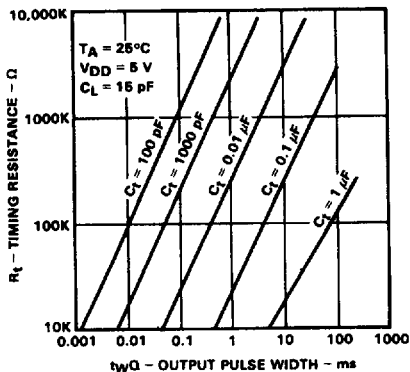
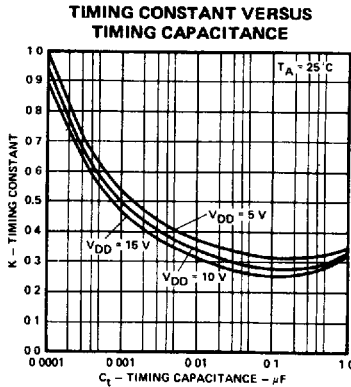

FIGURE 1.
Fig. 3.
3. Polarized capacitors may be used directly. The (+) terminal of a polarized capacitor is connected to pin 2 (14) and the (-) terminal to pin 1 (15). Pin 2 (14) will remain positive with respect to pin 1 (15).
4. The output pulse width can be determined from the pulse width versus  $C_t$  or  $R_t$  graphs (Figures 1 and 2).
The first step is to choose a capacitor. Figure 1 shows pulse width versus resistor value with the capacitor value as the running parameter. A capacitor value is chosen so that the approximate resistor value is between 20 kΩ and 2 MΩ. Once the capacitor is determined, the timing constant (K) is found from Figure 3 for a specific  $V_{DD}$ . The resistor value is then determined from Equation 2. If the resistor value is less than 20 kΩ the timing constant should be increased by 20% and the resistor value re-calculated. The resistor must be larger than 5 kΩ.
From Figure 1 a capacitor value between 0.01 and .1 μF would be reasonable. A 0.022 μF capacitor is the only capacitor that is available.
The timing constant for a 0.022 μF at 10 V  $V_{DD}$  is found from Figure 3 to be approximately 0.3.